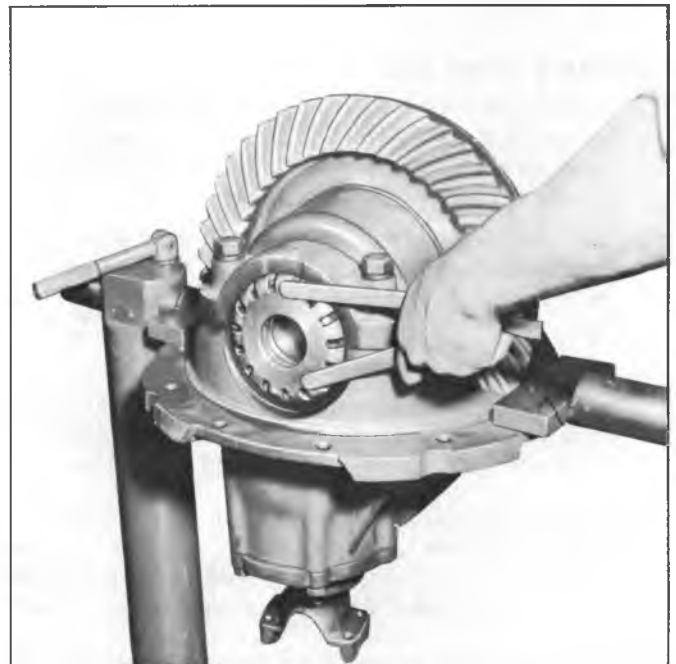

Fig. 13F--Ring Gear and Pinion Adjustment
1. With differential bearing cap bolts loosened just enough to permit turning the bearing adjustment nuts with Tool J-0972, remove all lash between ring gear and pinion. See Figure 13F.